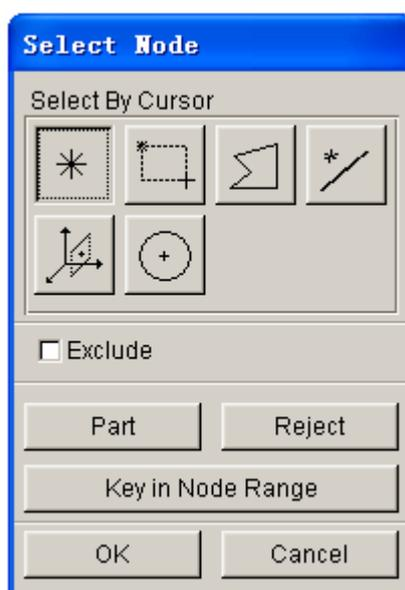

Figure 5.4.2 Select Node dialog box
- Select nodes by using options in the SELECT NODE dialog box as illustrated in Figure 5.4.2.